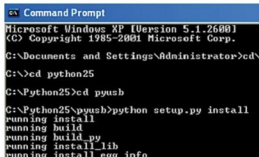

Fig. 1: Command Prompt screenshot
**Software installation.** Install Python2.5.2 IDE or higher in Windows 7 operating system. Then, install the supporting tools one by one. Default folder is C folder (C:\Python25). Extract PyUSB-1.0.0a2 zip file to Python25 folder. Now, using Command Prompt, go to PyUSB folder, which is inside Python25 folder, and install PyUSB using the following command (also shown in Fig. 1):